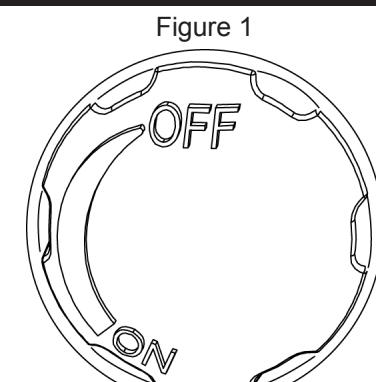

Figure 1
1. Make sure the regulator/control valve is in the "OFF" position. (Figure 1)